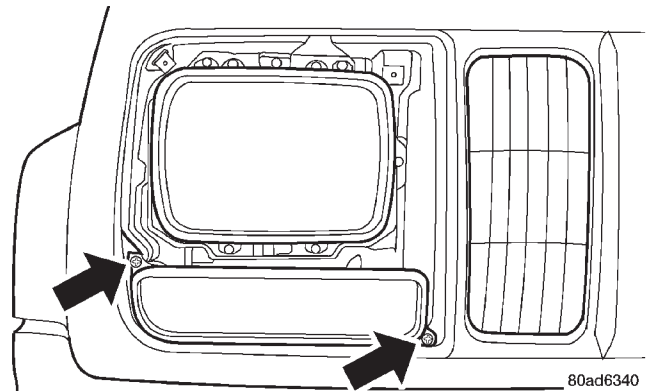

Fig. 6 Front Turn Signal Lamp
2. Remove the screws holding the turn signal housing in place (Fig. 6).